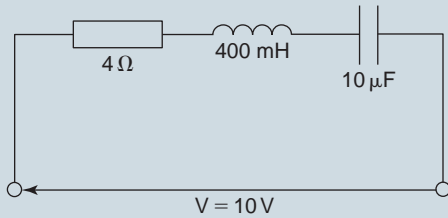

Figure 17.27
18. For the circuit shown in Fig. 17.27, the value of Q-factor is: